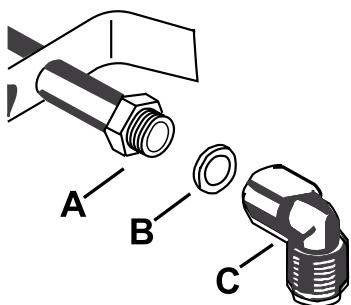

Fig. 6
- The gas piping should be fitted to the terminal connection using the GJ ½" (A) nut. Use washer (B) and elbow (C) for easier connection to the metal supply pipe or hose (Fig. 6).